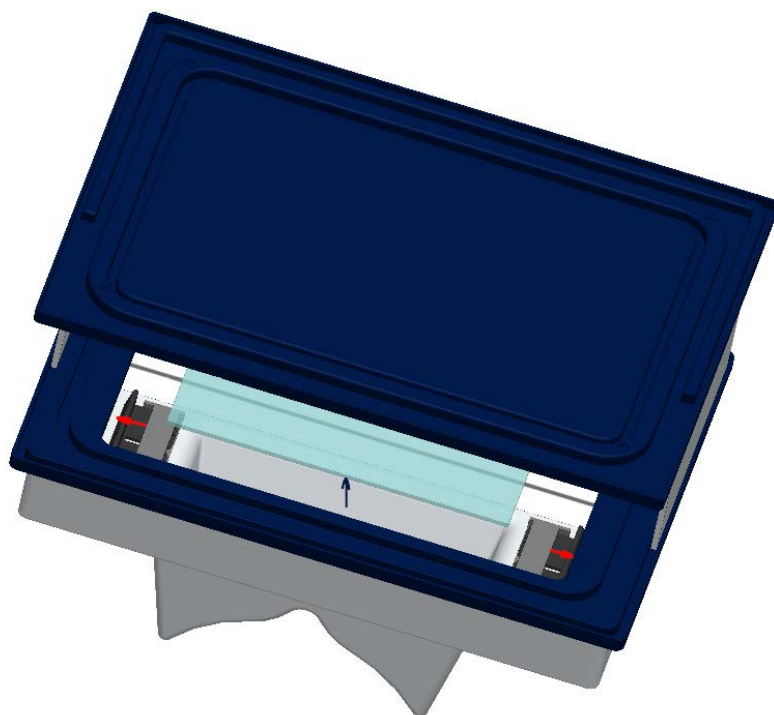

Figure 3
- ✓ Place the UV Cabinet on a table with the viewing window faced down and open the shutter. Pull the releases away from the glass filter (see detail in Figure 3) and remove the UV filter for cleaning.